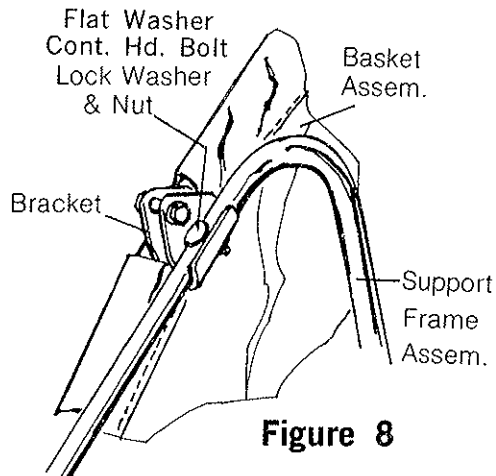

Figure 8
6. Fig. 8 & 13 - Position the Basket Assembly between the Support Frames. Use (2) Contour Hd. Bolts $\frac{1}{4}$ -20 x $1\frac{1}{4}$ Washers (Internal Tooth Lock), Plain Washer and Hex Plain Nuts. Put the Bolt down thru the Support Frame Tube and center the Bracket which is on the bottom of the Support Frame Tube, then tighten in place with the Bolt, Washer and Nut (Both sides).